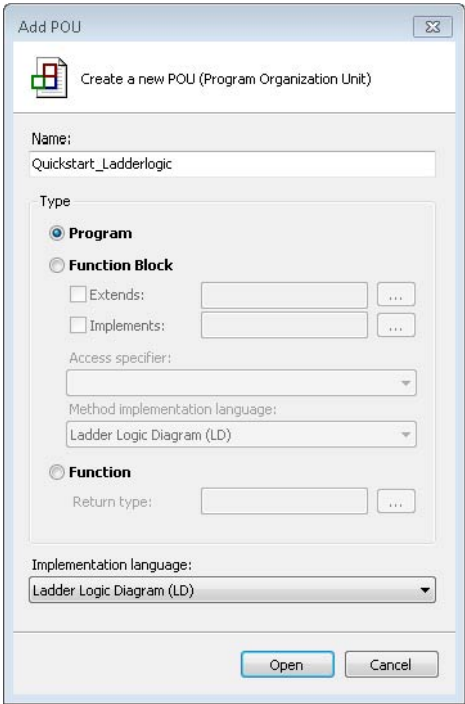

Figure 43. Add Program Organization Unit (POU)
1. The global variables are now set up, and the user must add a ladder logic diagram. Go to the **POUs** pulldown menu and select **Add > POU**. Name the ladder logic diagram **Quickstart_Ladderlogic**. Ensure that the implementation language option is set to **Ladder Logic Diagram (LD)** and click **Open** as shown in Figure 43.